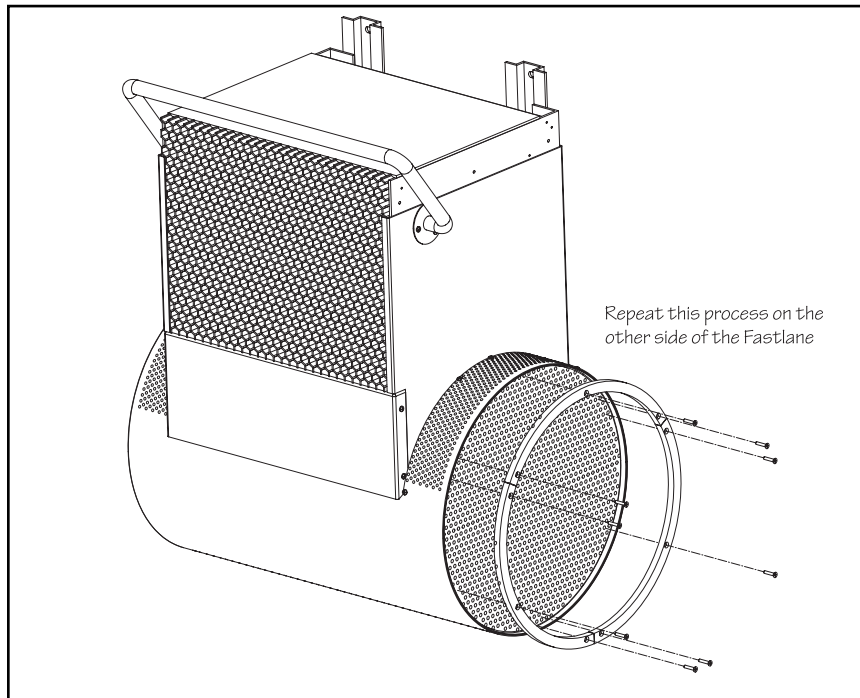

Fig. 6.11
6.13 Re-install the circular end caps. Make sure that the “smooth” surface of the end caps are facing out. If the stainless steel wire from the base to the end cap was removed, then it must be reattached at this time. Align the end caps to the internal PVC supports so that the holes in the internal supports are aligned with holes in the end caps. Position the arced cover strips over the end caps, making sure to align the hole in the arced cover strips with the holes in the stainless end caps and the internal PVC supports. Install the nine screws (3 per cover strip) that were removed in step 6.1. Repeat for the remaining end cap (Fig 6.11).